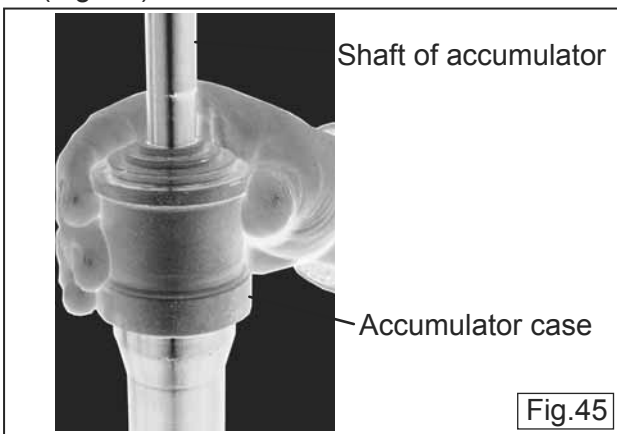

Fig.45
h. Degrease and clean the shaft of accumulator, then remove the accumulator case. (Fig. 45)